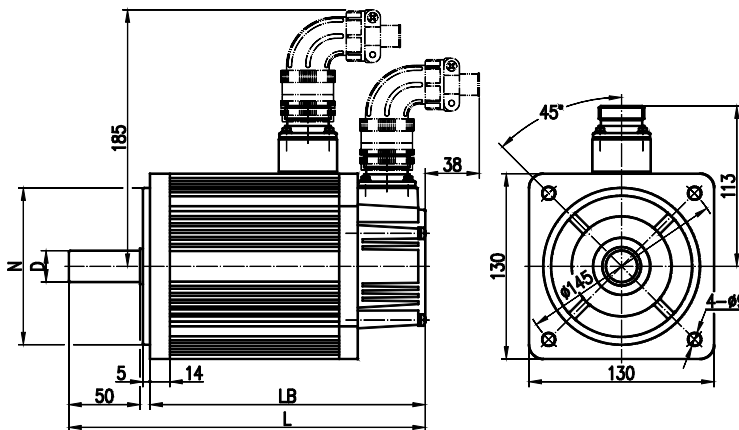

Fig. 3
5.3 Refer to figure 3 and list 9 about 130SJT, 130SJTE and 130SJTA series motor overall installation dimension.